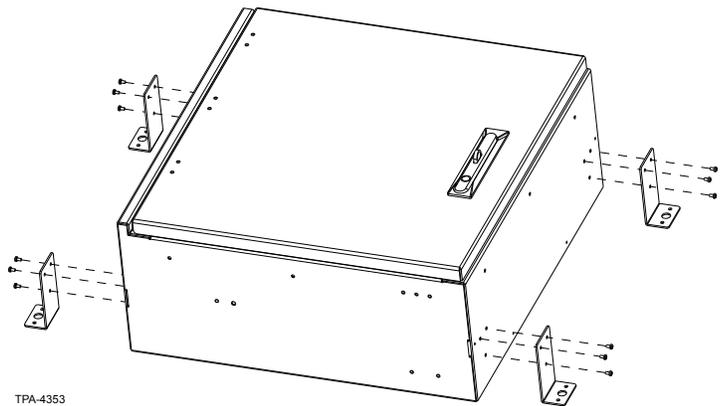

Figure 5
- Step 1:** Install (4) supplied wall mounting brackets to cabinet using provided $\frac{6}{32}$ -in screws (Figure 5).
Step 1: Install (4) supplied wall-mount brackets to the FZB as shown in Figure 5 using the provided screws.